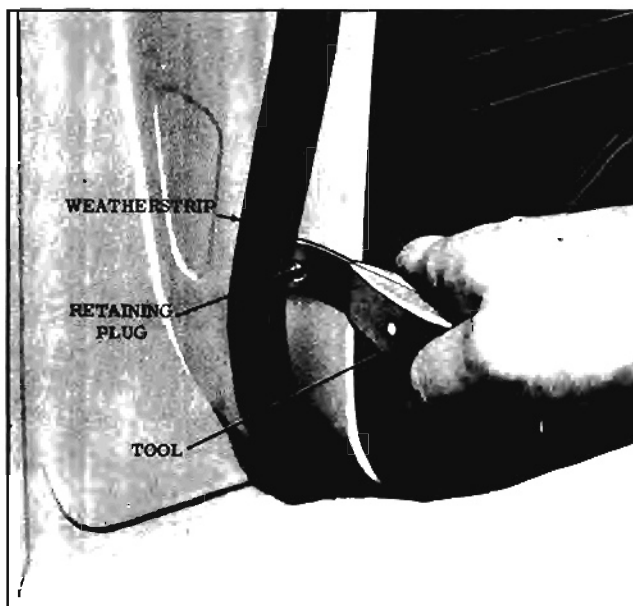

Fig. 16-19 Removing Retaining Plug
grip fastener as close to door panel as possible; then, gently pry fastener out of its respective door piercing. (Fig. 16-19) Continue around door until all fasteners have been disengaged and remove weatherstrip from door.
2. Slide Tool J-21104, or other suitable tool, under weatherstrip at a fastener location and grip fastener as close to door panel as possible; then, gently pry fastener out of its respective door piercing. (Fig. 16-19)